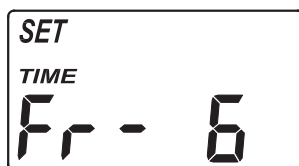

FIG. 28
2. Press the SELECT button five times, so that "SET TIME Fr" appears in the display (See Figure 28).